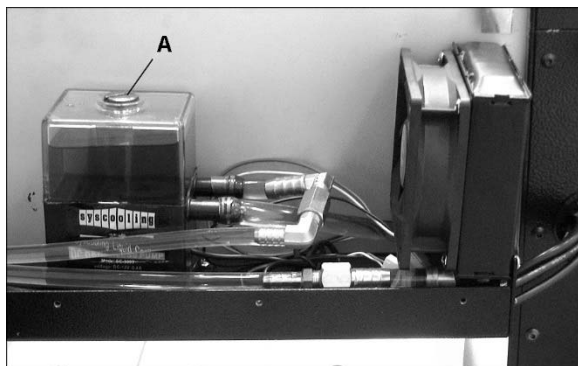

Figure 12-1
1. Remove rear cover, and unscrew fill plug (A, Figure 12-1).